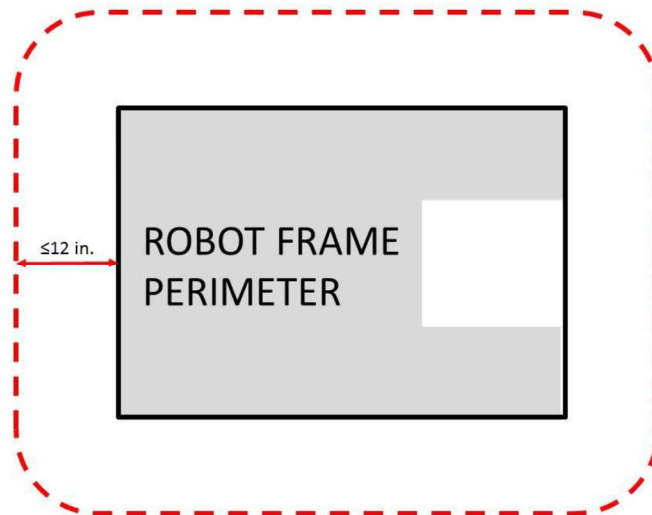

Figure 9-1 FRAME PERIMETER extension
- R4.** ROBOTS may not extend more than 12 in. (~30 cm) beyond their FRAME PERIMETER (see Figure 9-1)